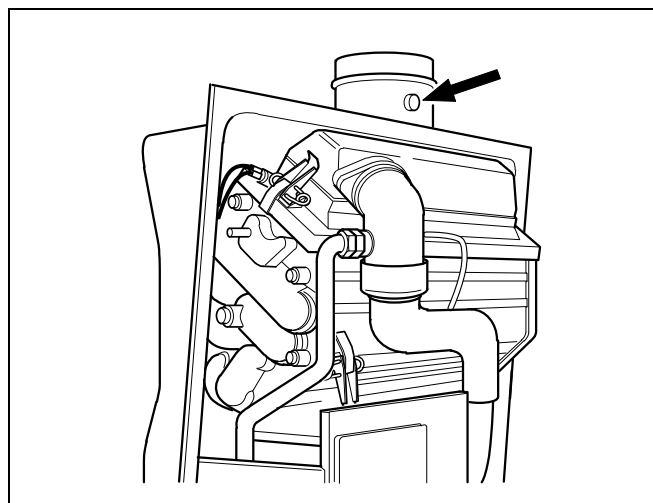

fig. 40 Flue gas measuring point
- Measure and record the CO2 content on the flue gas measuring point (fig. 40).
Measuring point see fig. 40 on page 31.